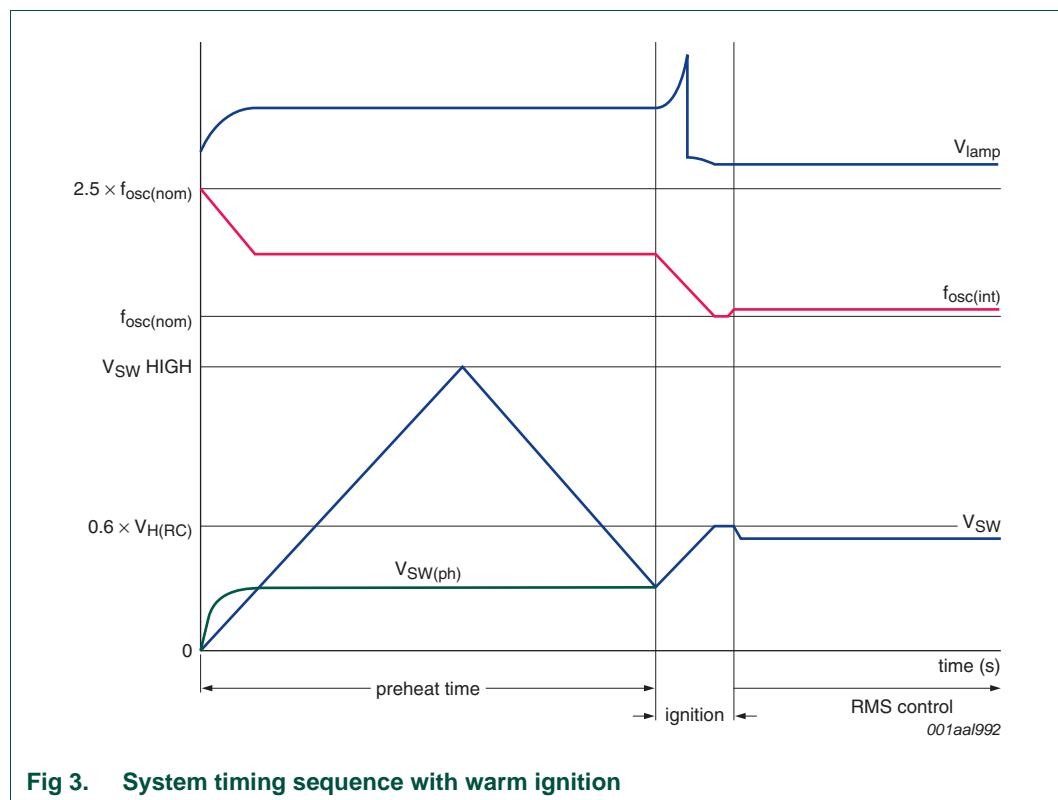

Fig 2. Photos of a 12 W CFL with the UBA2211
- Input power: 12 W at 230 V (AC)
- Input current: 80 mA at 230 V (AC)
The 230 V (AC) mains input connection and four connections for the burner are connected as shown in Figure 2.